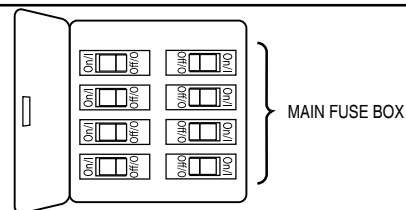

Figure 1
Your new ceiling fan will require a grounded electrical supply line of 120 volts AC, 60 HZ, 15 Amp Circuit. Electrical code requires use of a fan-rated outlet box to support the extra weight and motion associated with a ceiling fan. A fan-rated box will be labeled as such and typically supports up to a 70lb ceiling fan. Fan-Rated Outlet Boxes vary in ratings and design. Ensure the ratings of your ceiling fan outlet box meet the requirements for the ceiling fan being installed. Figure 1, Figure 2 and Figure 3 depicts different structural configurations that may be used for mounting the outlet box.
Low-profile use (Figure 1)
1. Remove the hanger ball portion from the downrod/hanger ball assembly by loosening the set screw in the hanger ball until the ball falls freely down the downrod. Remove the pin from the downrod, then remove the hanger ball. Retain the pin and hanger ball for reinstallation in Step 6. (Figure 1)
To avoid possible fire or shock, be sure electricity is turned off at the main fuse box before hanging. (Figure 1)